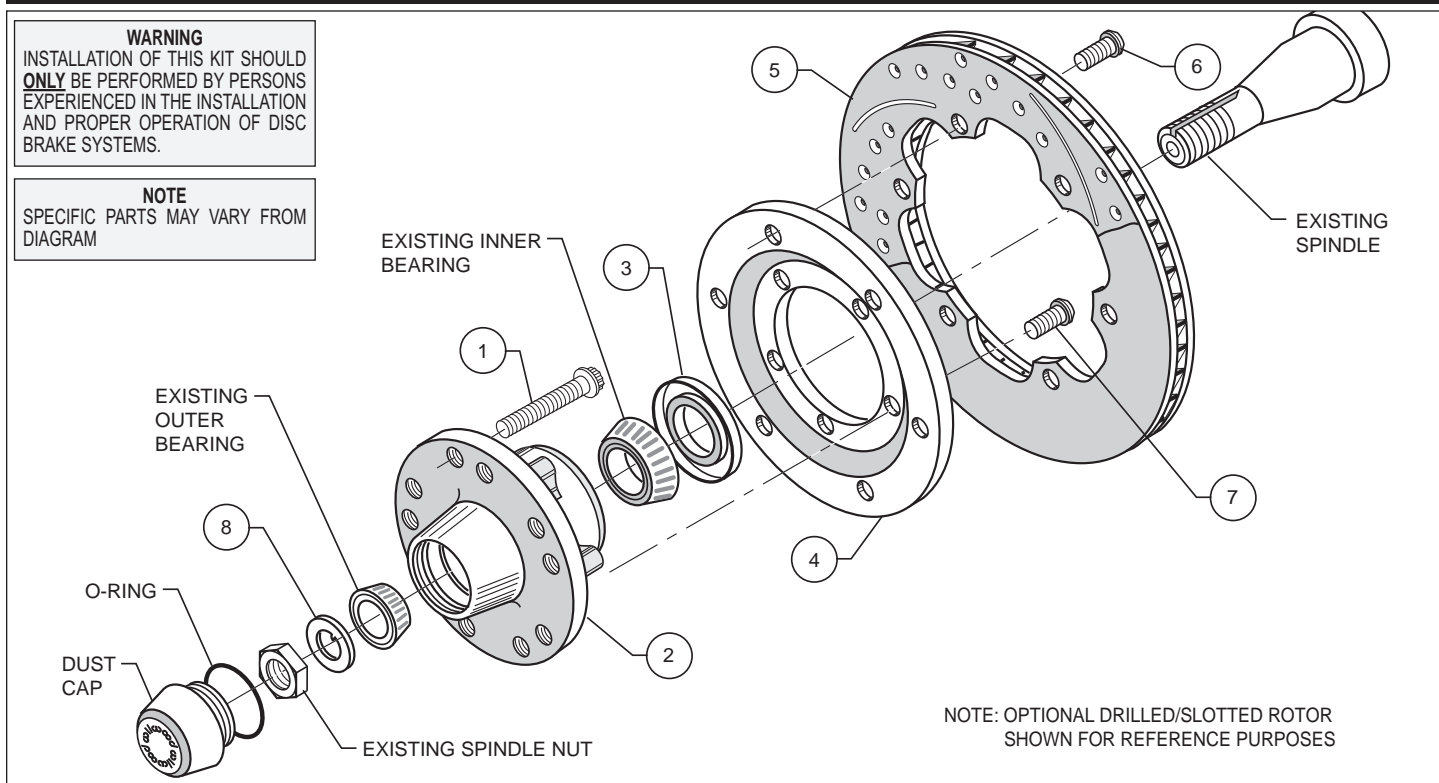

Figure 1. Typical Installation Configuration
- Install wheel studs (1) into the hub (2). Torque to 77 ft-lb. **NOTE:** There are two five lug patterns in the hub (5 x 4.50 and 5 x 4.75). Make sure of the correct hole pattern for the correct wheel application before installing studs into hub.
- Pack the large inner bearing cone (use existing) with high temperature disc brake bearing grease (available from your local auto parts store) and install into the backside of the hub (2).
- Install the grease seal (3) by pressing into the backside of the hub (2).
- Orient the rotor (5) and the rotor adapter (4) as shown in Figure 1. Attach the rotor to the adapter using bolts (6). Using an alternating sequence, apply red *Loctite*® 271 to the threads, and torque to 25 ft-lb.
- Mount the adapter/rotor assembly (4/5) to the hub (2) using bolts (7) (finger tight), as shown in Figure 1. Using an alternating sequence, remove bolts one at a time, apply red *Loctite*® 271 to the threads, and torque to 45 ft-lb.
- Pack the small outer bearing cone (use existing) with high temperature disc brake bearing grease and install into front of hub (2). Slide the hub/rotor assembly (2 and 5) with outer bearing cone onto the spindle. Secure using spindle washer (8), spindle nut and nut locking device (reuse existing). Adjust bearings per Original Equipment Manufacturer (OEM) specifications.
- Install the dust cap onto the hub (2). Friction created by the o-ring on the dust cap keeps it from unscrewing. Be sure the spindle washer seats firmly against the hub face.